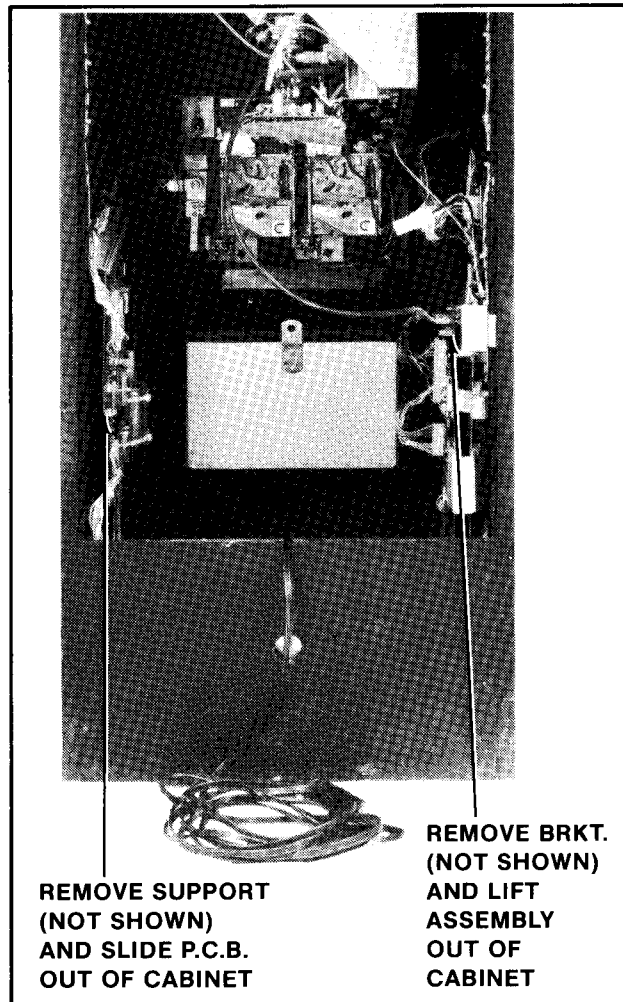

Figure 4-13 Replacing P.C.B.s — Mini
### 2. MINI MODEL: See Figure 4-13.
- Disconnect the power supply board from all its cabling, remove the P.C.B. supports indicated in Figure 4-13, and slide it out the back of the cabinet.